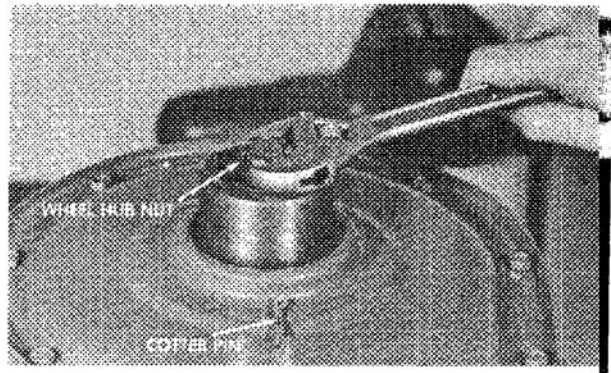

Figure 21
3. Remove cotter pin and slotted nut from axle shaft (Fig. 21).